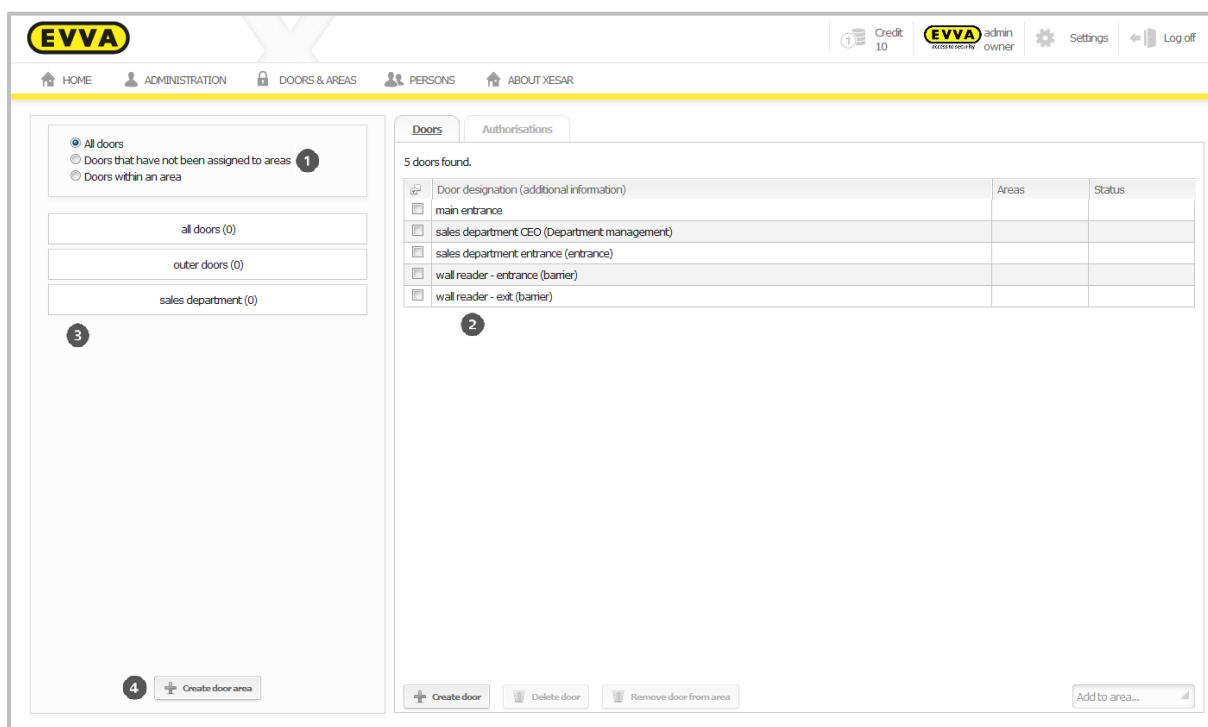

Figure 66: Doors and areas
In the **Doors & areas** section, click the corresponding selection ❶ (select by door) or ❸ (select by area) to open a list of doors and areas which have already been created in the Xesar software and view which doors have been assigned to which areas. You can also assign doors to areas in this section. Create areas to group several doors in categories and facilitate assigning authorisations to make the overall process more transparent. For instance, if you would like to grant one or more persons access to five individual doors, you can group these in an area. Subsequently, all you need to do is assign persons to the area to enable them to unlock the aforementioned five doors. You can create a maximum of 96 areas. It is possible to assign doors to several areas. (Figure 66: Doors and areas)
- Click **Create door area ④** (Figure 66: Doors and areas).